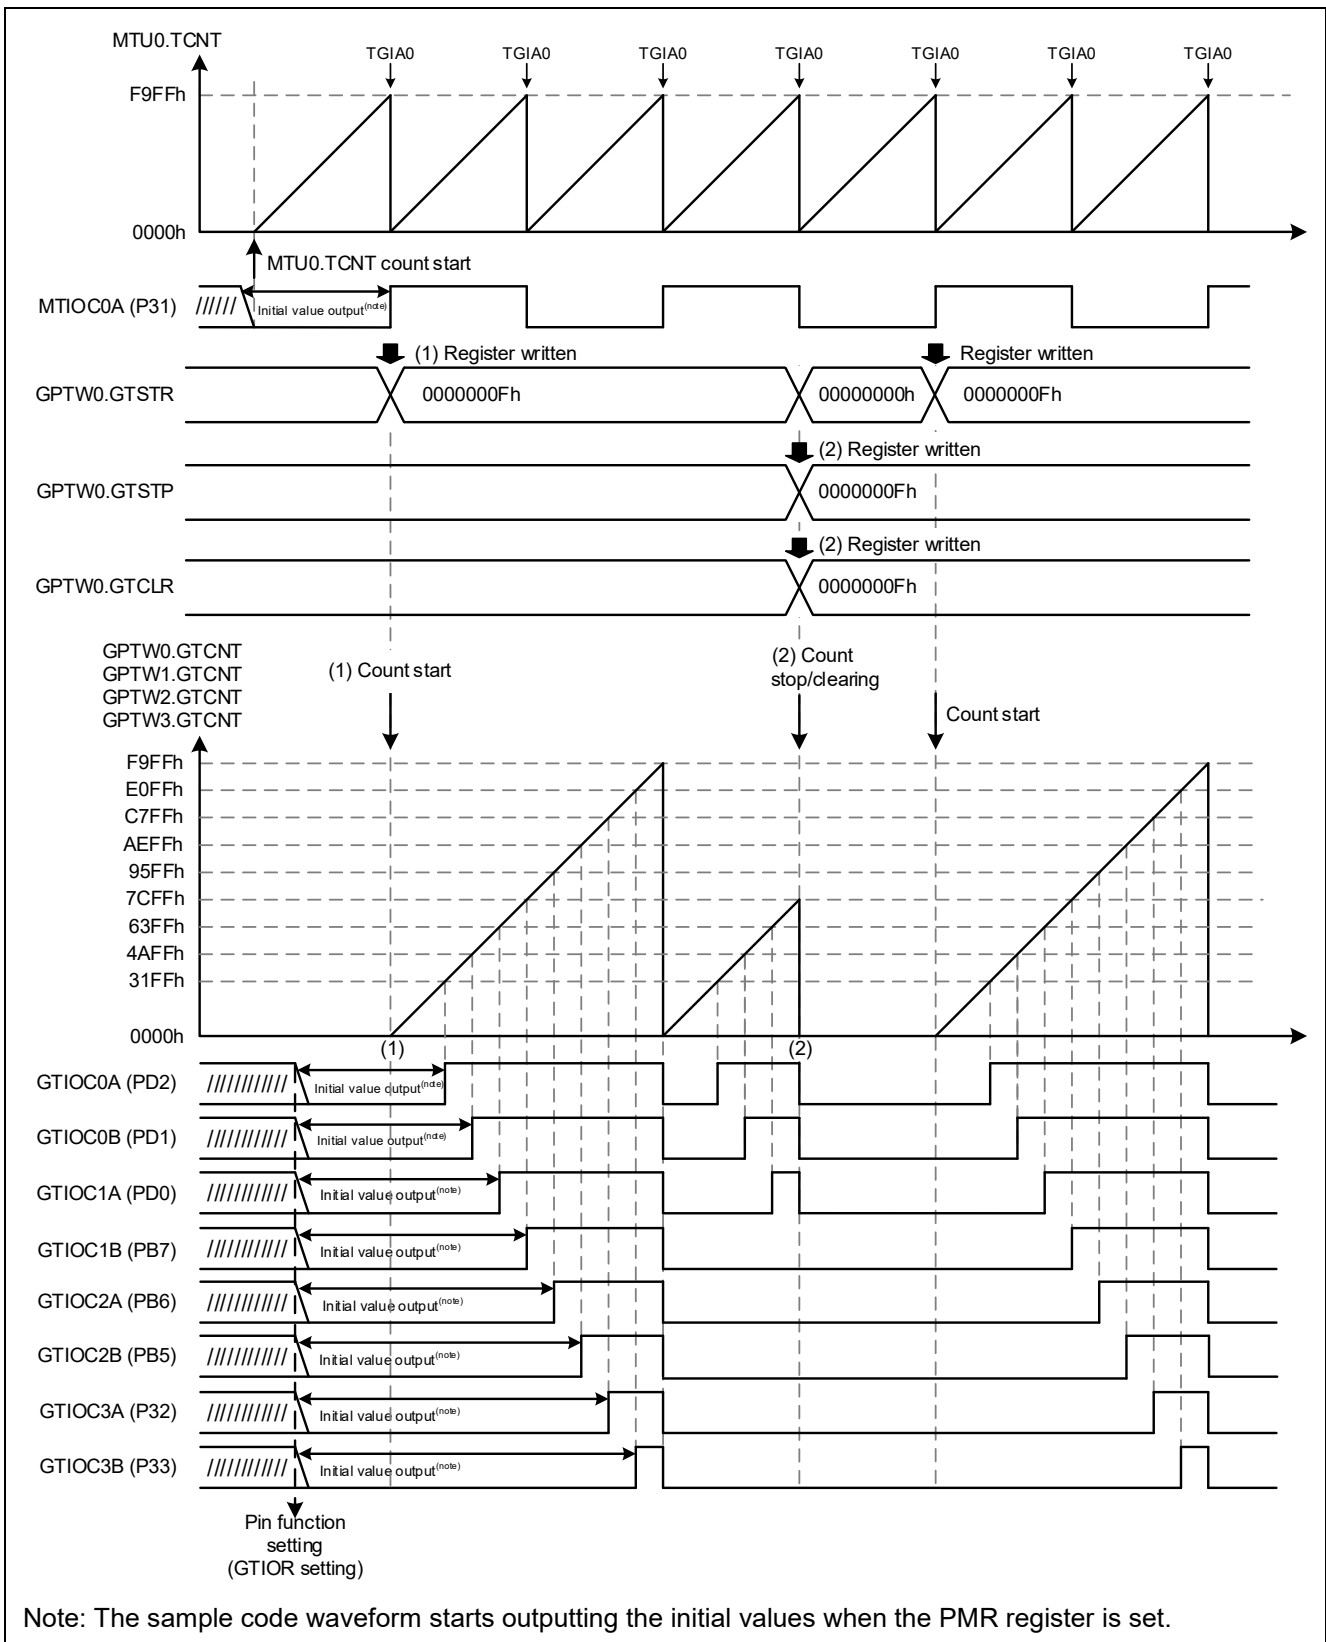

Figure 4.7 Sample Code Operations
The sample code operations are shown in Figure 4.7. Use the TGRA of MTU0 as the period register to set the count synchronous start or synchronous stop/clearing for GPTW0 to GPTW3 when a TGRA compare match interrupt is generated.
When the first TGRA compare match interrupt is generated, software start register GPTW0.GTSTR is set and GPTW0 to GPTW3 start counting in synchronization ((1) in Figure 4.7).
When the third TGRA compare match interrupt is generated, software stop register GPTW0.GTSTP and software clear register GPTW0.GTCLR are set, and counting stops and the counters are cleared in synchronization ((2) in Figure 4.7).